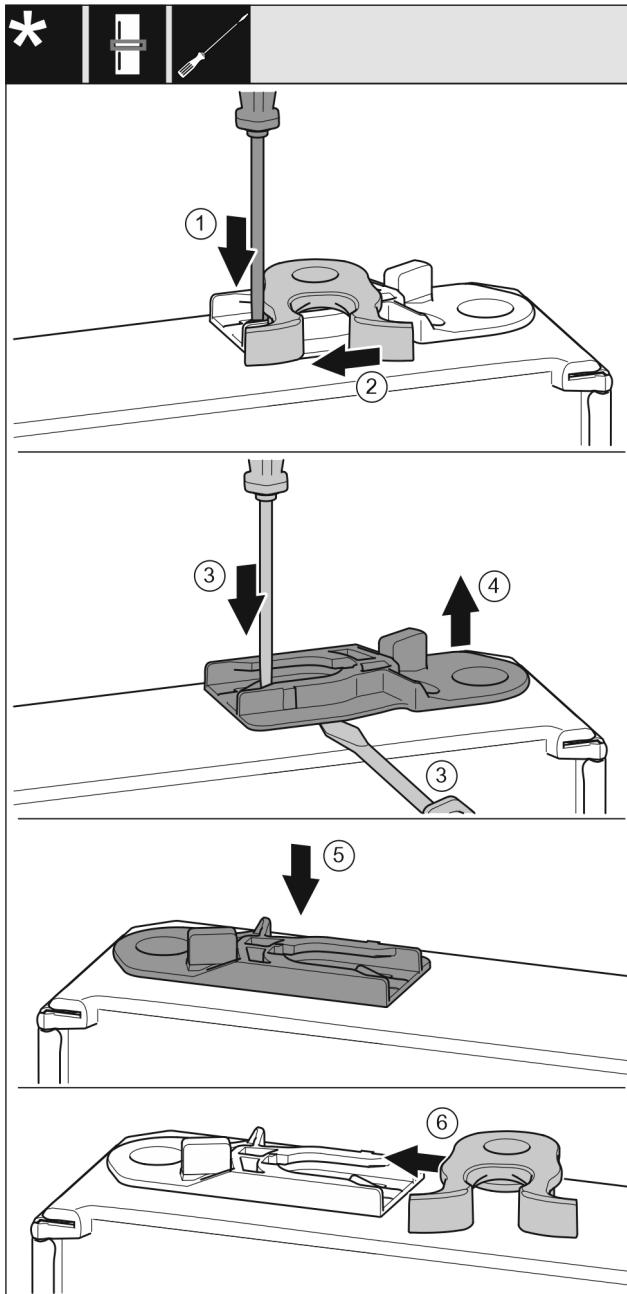

Fig. 18
- ▶ Push the lug downwards with a slotted screwdriver. Fig. 18 (1)
- ▶ Pull the door latch out of the guide. Fig. 18 (2)
- ▶ Pull out the guide bush: Press the lug with a slotted screwdriver and, at the same time, insert the slotted screwdriver under the guide bush. Fig. 18 (3, 4)
- ▶ Slide the guide bush included in the scope of supply to the other side of the housing. Fig. 18 (5)
- ▶ Push the door latch into the guide. Fig. 18 (6)